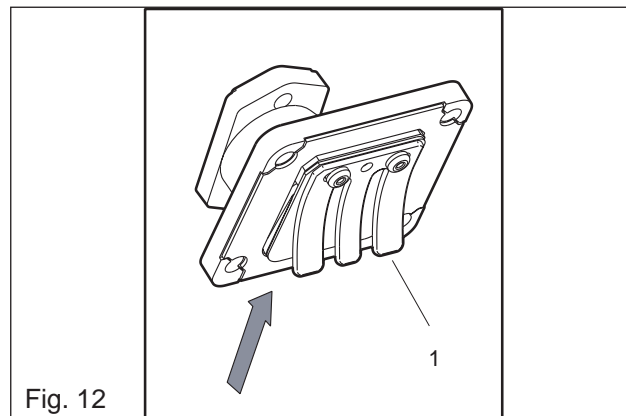

Fig. 12
Unhook the throttle cable from the carburettor cable wheel and lift off the carburettor from the diaphragm valve (11) housing and the diaphragm for wear, see Fig. 12, and replace if necessary.
**Note:** The position of the supporting legs (1) must not be changed, as this will impair the performance of the engine.